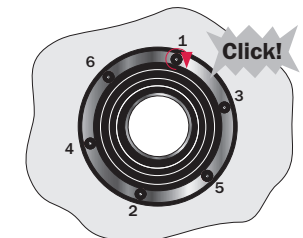

Fig. 5
3. Tighten the **KRASO® Sealing Insert** on the Torque Control Nuts **KRASO® DKM** crosswise in steps of 1 - 2 turns (Fig. 5). The correct torque is specified by the Torque Control Nuts **KRASO® DKM** and is reached when the first resistance is audibly and tactilely exceeded.